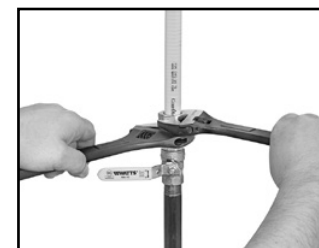

Fig. 4-7
STEP 5 WRENCH FITTING (FIG. 4-7)